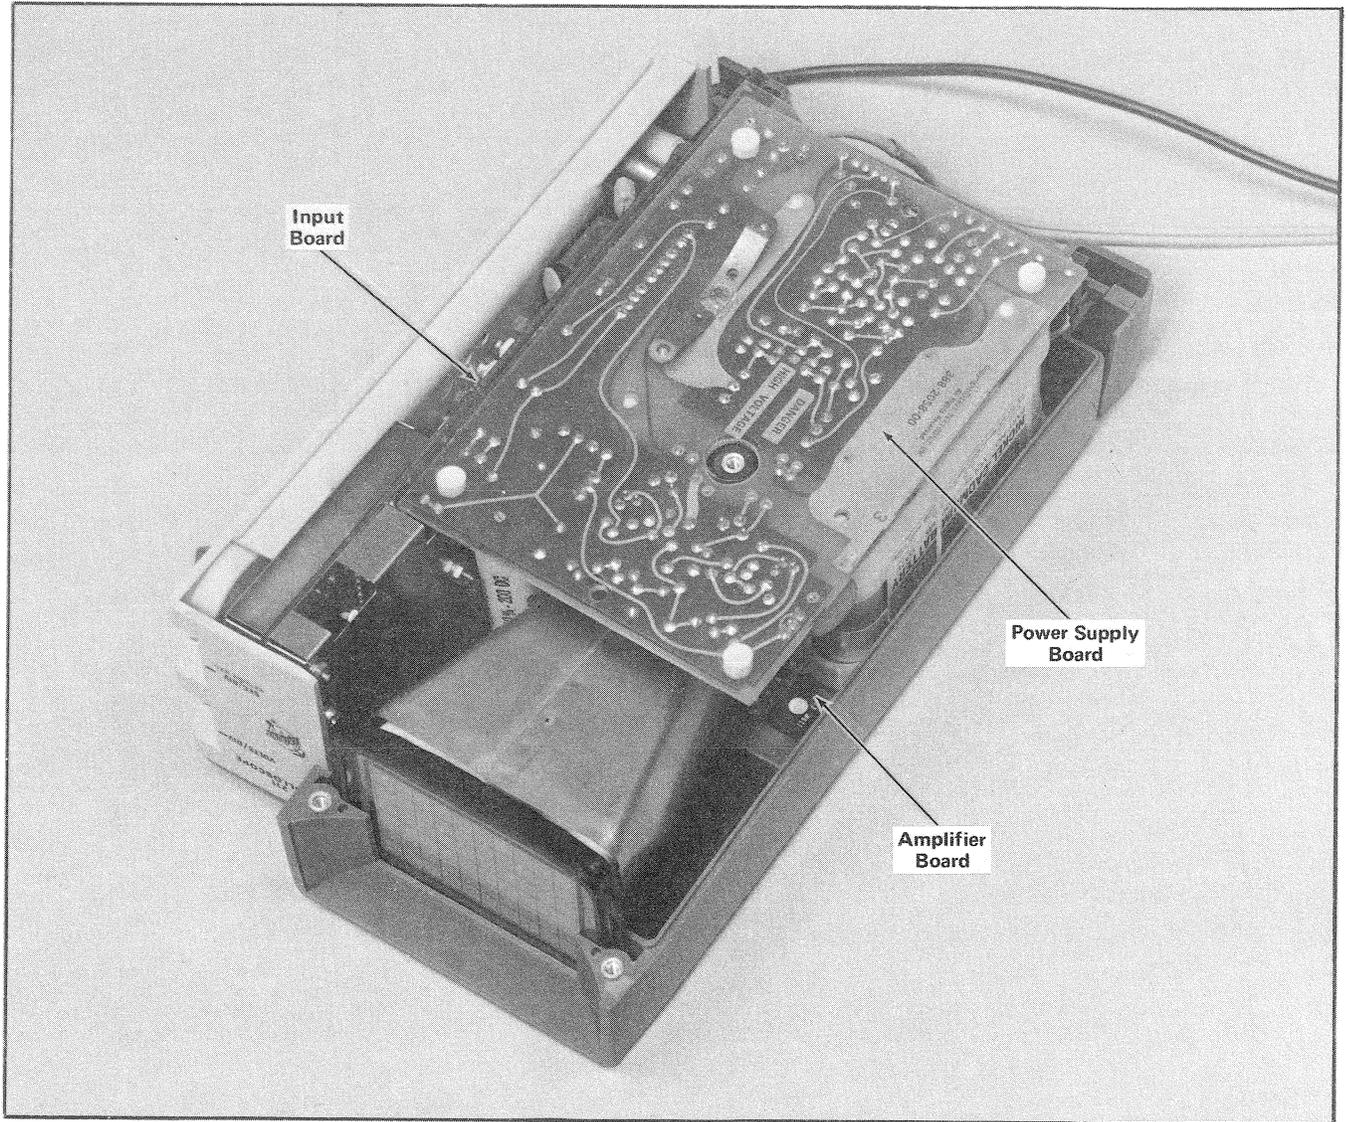

Fig. 3-6. Location of circuit boards in the 211.
**Circuit Boards.** Fig. 3-6 shows the location of the circuit boards within this instrument along with the assembly numbers. The assembly numbers are also used on the diagrams and in the parts list to aid in locating the boards. Pictures of the circuit boards are shown in Figs. 5-1 through 5-4. These pictures are located in the Diagrams section, on the back of the page opposite the circuit diagram, to aid cross-referencing between the diagrams and the circuit-board pictures. Each electrical component on the boards is identified by its circuit number as well as the interconnecting wires and/or